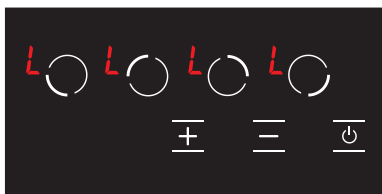

Figure 17
1. The **L** icon is displayed on all displays when the stove is on and the child lock is active. (see Fig. 17) The **L** and **H** icons are displayed alternatively if any hob is hot. You may turn the stove on or off with the  key only.